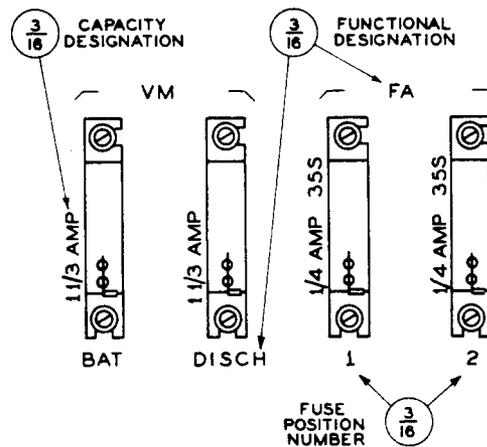

Fig. 23 - Alarm-Type Fuses
2.34 For alarm-type fuses including the 70-type and other telephone-type fuses, see Section 800-613-152 and 1.04, also assembly Fig. 50. Alarm fuses used on circuits 90 volts and higher, such as 35J, 35K, and similar arc restricting types, should have the code of the fuse stamped immediately following or under the capacity designation and in the same size and color. (See Fig. 23 and 26.)